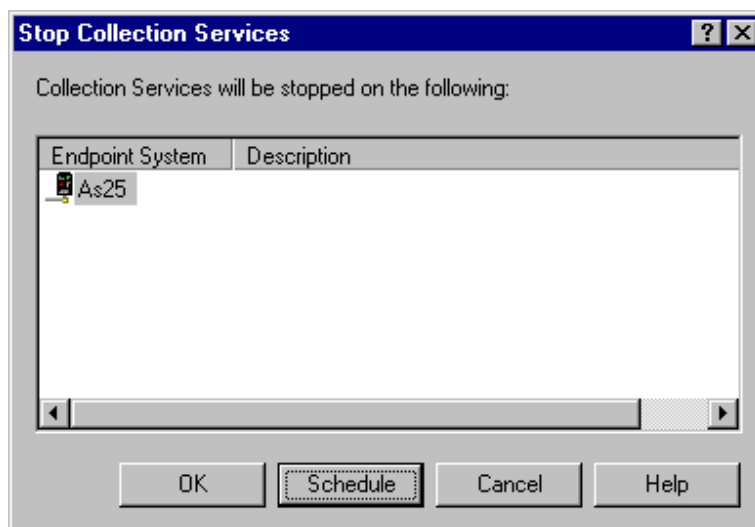

Figure 114. Stop Collection Services window
2. Right-click **Collection Services** and select **Stop Collecting** to open the Stop Collection Services window shown in Figure 114.
2. Right-click **Collection Services** and select **Stop Collecting** to open the Stop Collection Services window, which is displayed in Figure 114 on page 143.